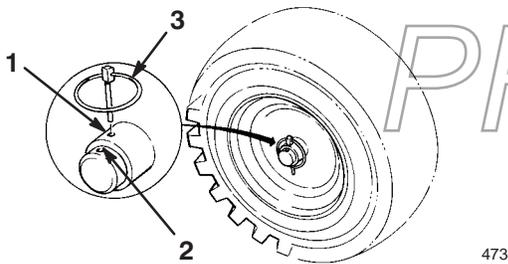

Figure 5
7. Slide the wheels inward and insert each axle pin through the hole in each wheel hub and through the **inner** hole of the axle (Fig. 5).